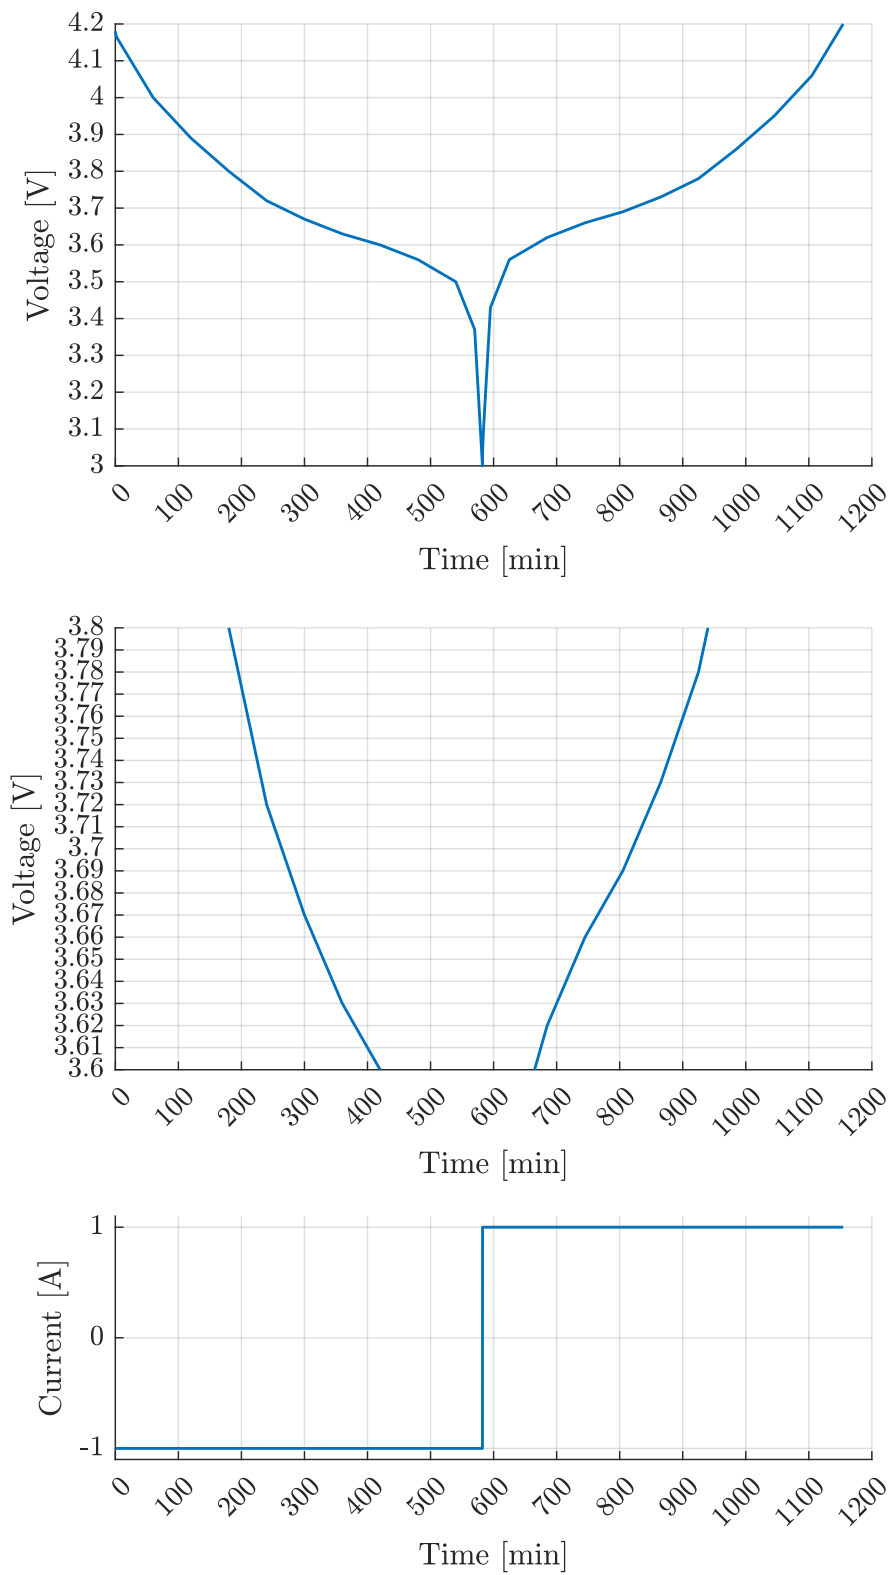

Figure 1: Measured voltage and current during a discharge-charge cycle of a battery.
**Task 3.** Two tests have been performed on a new cell. One test is a discharge charge cycle and the other is a current step of 1 A. The measurement data can be seen in Figures 1 and 2 respectively. Answer the following questions based on the data and motivate how the data is used to answer the questions.